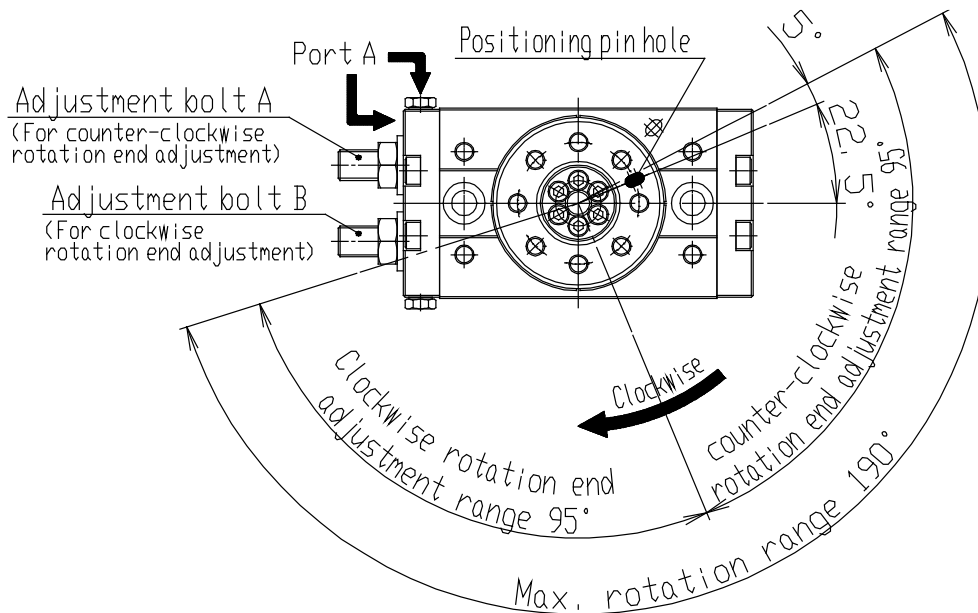

Fig. 4 Rotation direction and rotation angle
- Refer to the setting example of the rotation angle range. (Fig.4)